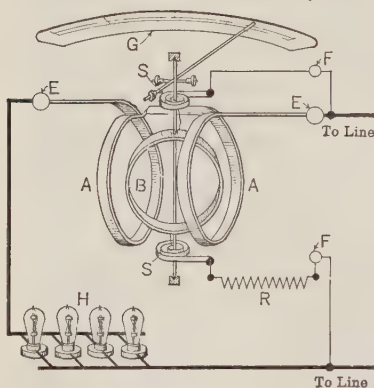

FIGURE 402. — WATTMETER, DIAGRAM-MATIC.
**264. The Wattmeter.** — It is often convenient to measure the power in a circuit directly. The *wattmeter* (Figure 402) consists of two stationary coils ( $AA$ ), between which is